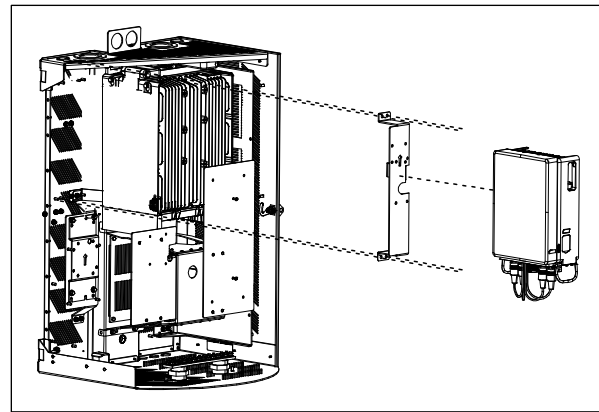

Figure 6 Install CBRS Radio
4. Mount the radio/bracket assembly to the SHRD60 rear panel using four Keps nuts (Figure 6).